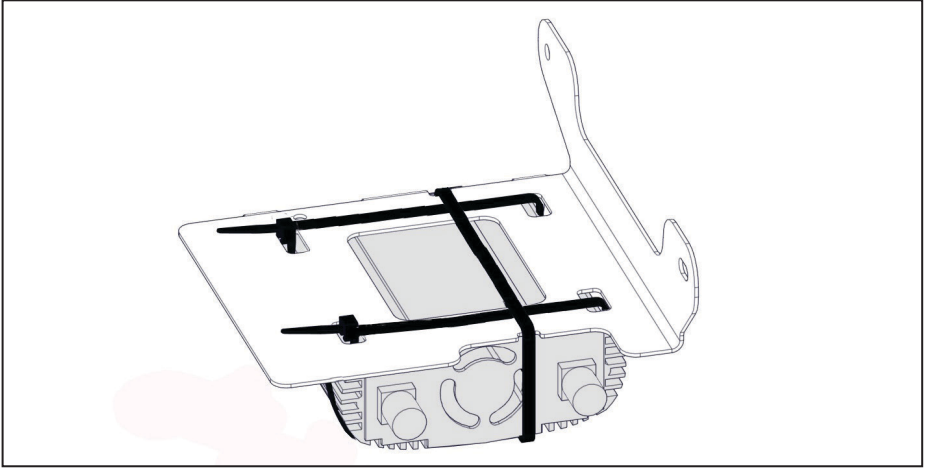

Figure 43 — Mount inverter
- ☐ Using the supplied cable ties, mount the inverter onto the inverter bracket (Figure 43).